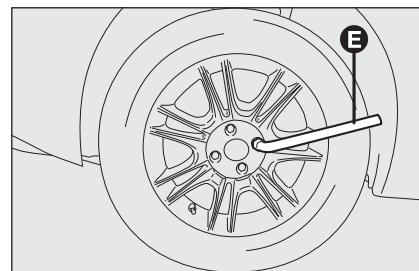

fig. 11
- ☐ Using the wrench provided E-fig. 11 loosen the fastening bolts by about one turn; if the car is fitted with alloy rims, shake the car to facilitate removing the rim from the wheel hub;